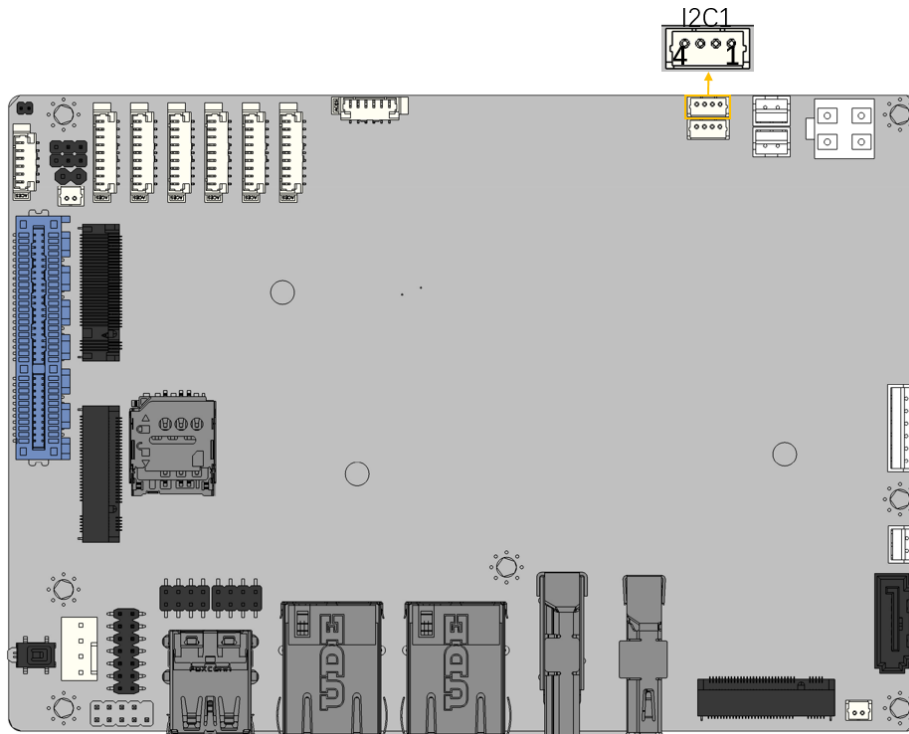

Figure 3-20: I²C Connector Location
- CN Location:** See **Figure 3-20**